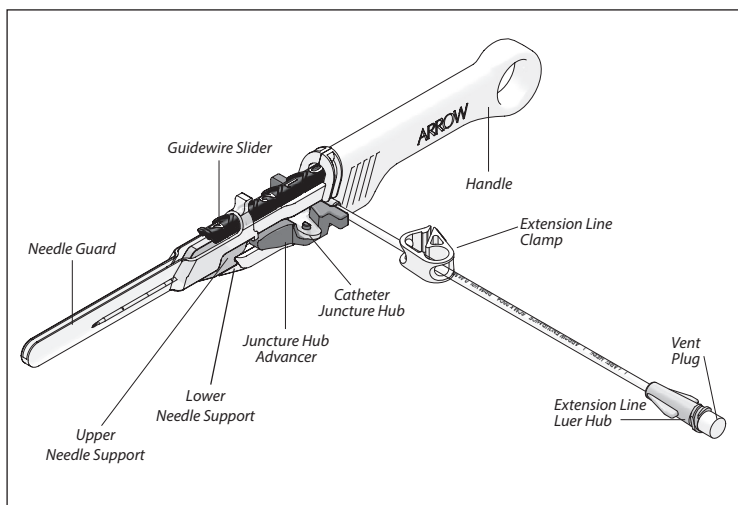

Figure 1
The Arrow™ Endurance™ Extended Dwell Peripheral Catheter System is a sterile, single use peripheral intravascular device designed to permit access to the peripheral vascular system. The insertion device consists of an ergonomically designed handle with an integral echogenic needle that contains a passively-activated needle protection mechanism, guidewire with slider advancer and single-lumen catheter (refer to Figure 1). The insertion device is designed to allow the user to intuitively advance the guidewire and release the catheter with minimal insertion steps. The catheter is advanced over the needle and threaded over a guidewire into a peripheral vessel.
- Check that extension line clamp is not engaged and vent plug is secure (refer to Figure 1).